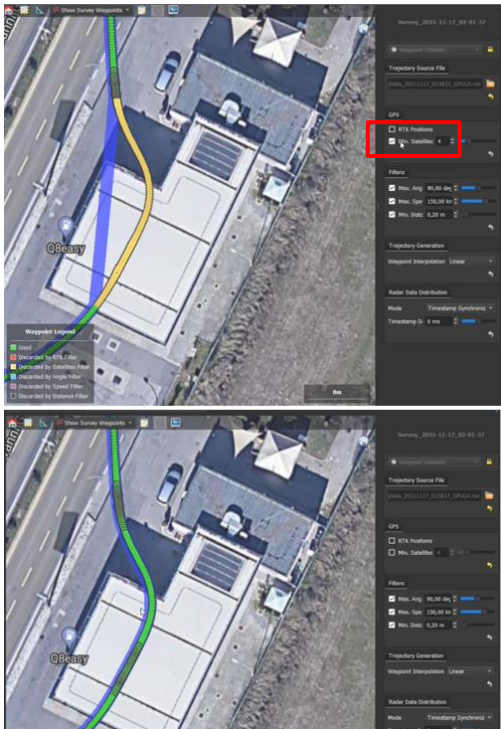

Fig. 91 – Satellites filter removing
NOTE: The User must remove the Satellite filter from Trajectory tab after APS processing (red square Fig. 91). This is because APS processing allows to resolve trajectory issues due to missing/bad satellites coverage (Fig. 91).
- The **Trajectory Source Manager** window by clicking on  button (1 of Fig. 91) and then selecting  option from **Track Name** tab (2 of Fig. 91);